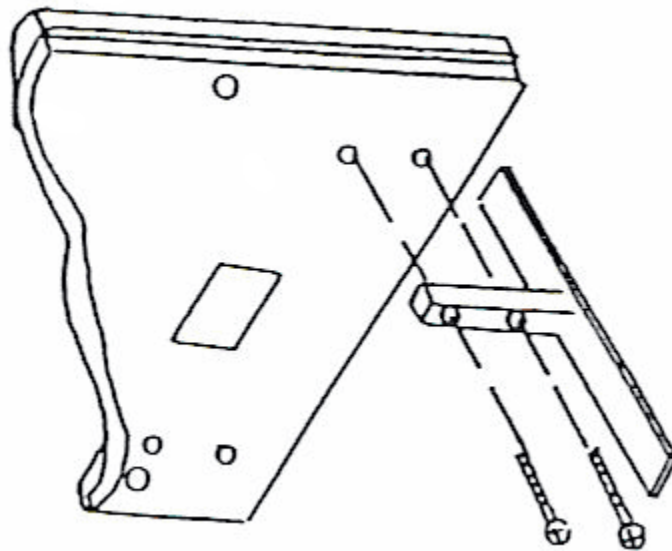

Figure 1
- A. Lay the speakers on the side as shown in Figure 1. We suggest you have a second person hold the speakers during installation to ensure they do not fall.